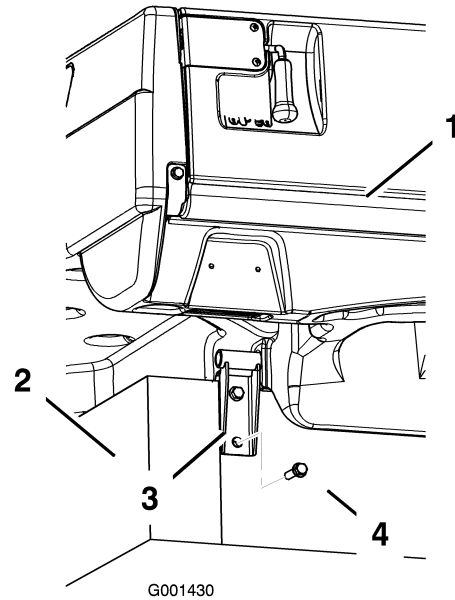

Figure 2
7. Remove the bolts securing the hinges to the box frame. Remove the hinges and retain all parts or fasteners (Figure 2).